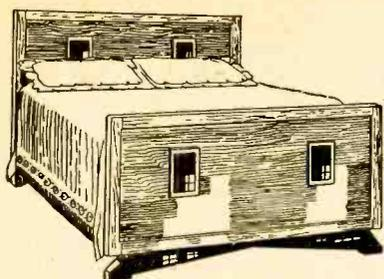

Fig. 1—The finished bedstead in oak, 4 ft. 6 ins. wide.
As the base (D) is intended for ebonying, it might be of close-grained birch, shaped as in Fig. 1 and stained and finally fixed by screwing up into the bottom rail (C).